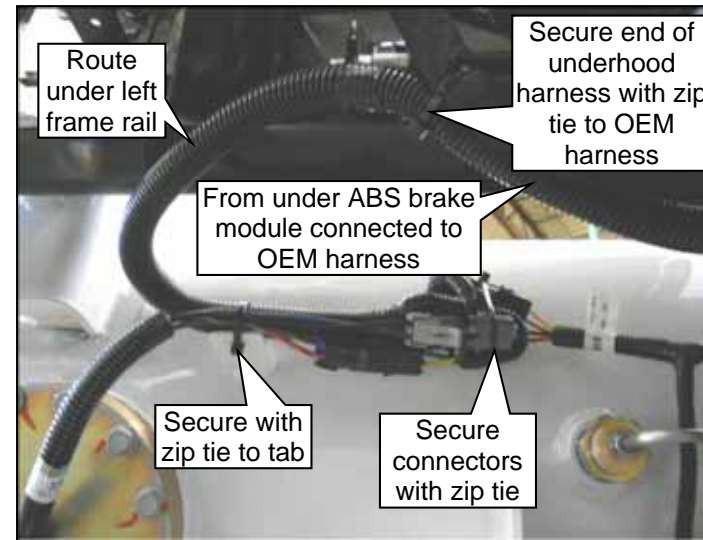

Figure 32.1 — Bottom View
1. Route the end of the underhood harness (behind the ABS brake module) up, under the left frame rail. Connect the three underhood harness connectors to the two left tank fuel pump connectors and to the tank solenoid harness connectors. Secure the underhood harness and tank solenoid harness to a tab on the inside of the tank using zip ties. **Figures 32.1 and 32.2.**